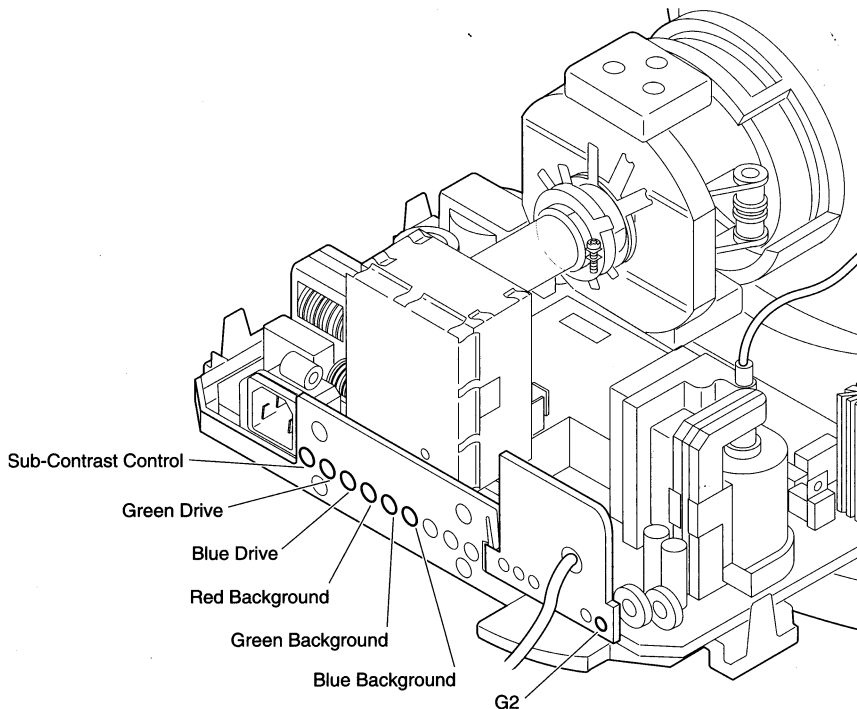

Figure 6 Video Adjustment Controls
3. FIGURE 6. Using the hex-head adjustment tool, adjust the Red, Green, and Blue Background controls to the full counterclockwise positions.
4. FIGURE 6. Set the Green Drive and Blue Drive controls clockwise to the $\frac{3}{4}$ position (turn the controls full clockwise, then back $\frac{1}{4}$ turn).
5. FIGURE 6. Set the Sub-Contrast control to the full clockwise position.
6. FIGURE 6. Using the adjustment tool, adjust G2 until the first bar is completely black and the second bar is barely visible.
3. FIGURE 6. Noting the predominant color, use the hex-head adjustment tool and alternately adjust the Red, Green, and Blue Background controls until there is no predominant color in the four darkest bars. The darkest bar must be completely black. If necessary, adjust the Blue and Green Drive controls until there is no predominant color in the four brightest bars.
4. FIGURE 6. Check the four darkest bars, and if necessary, adjust the Red, Green, and Blue Background controls until there is no predominant color.
6. FIGURE 6. Using a light meter, adjust the Sub-Contrast control until the light meter measures in the middle of the 10 scale.